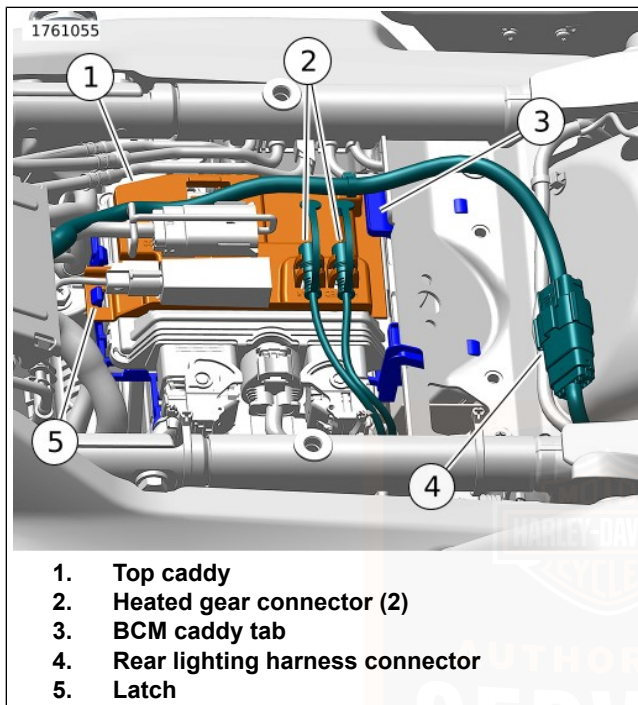
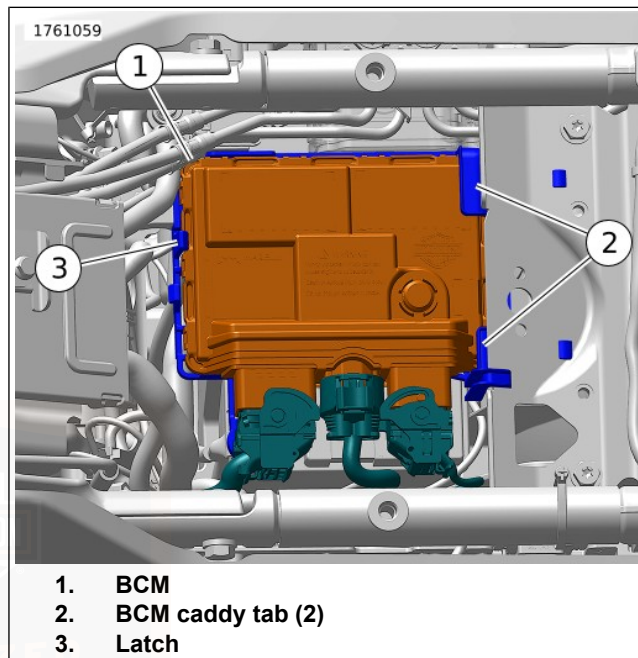
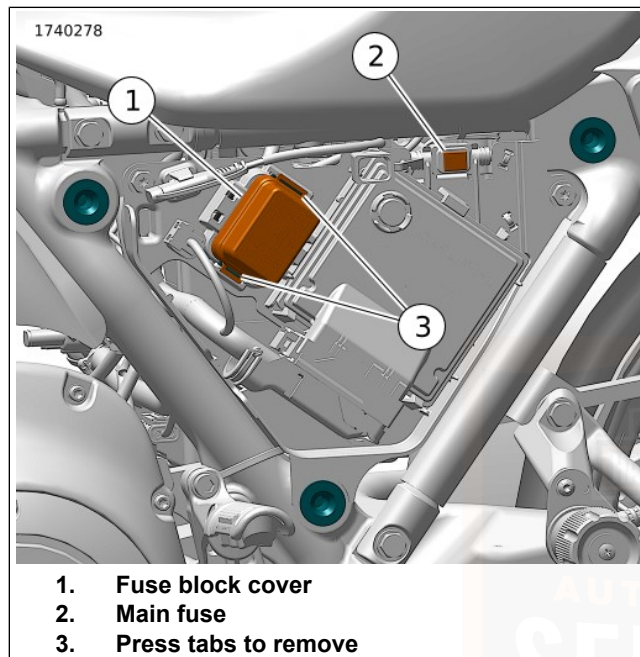

Figure 107. Removing/Installing Top Caddy
Figure 108. Removing/Installing BCM
Figure 111. Fuse Block (under left side cover)
- d. See Figure 111. Remove main fuse (2).
3. See Figure 107. Disconnect rear lighting harness connector (4).
4. Remove heated gear connectors (2) from top caddy (1).
5. Push latch (5) rearward slightly and lift front of top caddy. Slide top caddy forward to release it from BCM caddy tab (3).
7. See Figure 108. Push latch (3) forward slightly and lift front of BCM (1). Slide BCM forward to release it from BCM caddy tabs (2).
9. See Figure 108. Lower BCM (1) down into position on top of BCM caddy. Slide BCM rearward under rear BCM caddy tabs (2).
10. Push down front of BCM until latch (3) snaps in place.
11. See Figure 107. Lower top caddy (1) into position on top of BCM. Slide top caddy rearward under BCM caddy tab (3).
12. Push down front of top caddy until latch (5) snaps in place.
13. Install heated gear connectors (2) into retainers on top caddy.
14. Connect rear lighting harness connector (4).
15. See Figure 111. Install main fuse (2).
See Figure 111. A 60 A main fuse (2) is located near the fuse block. Removing the main fuse disconnects power to all systems except the starter motor/solenoid.
See Figure 111. Fuses are located under left side cover.